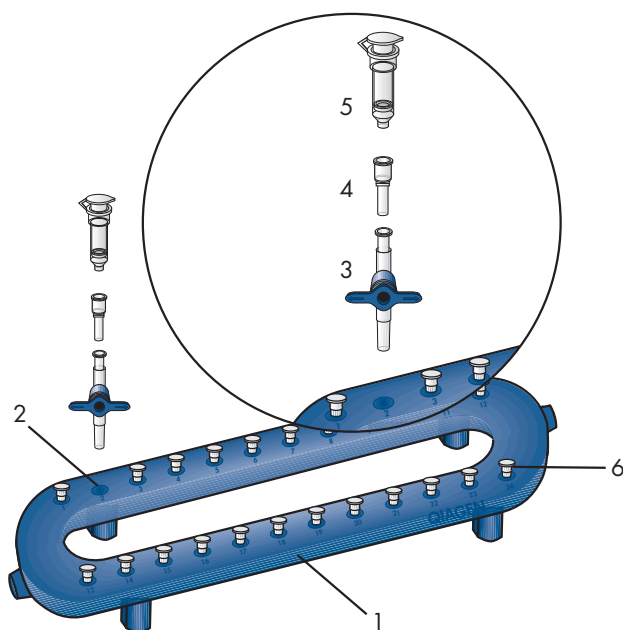

Figure 2. Setting up the QIAvac 24 Plus with QIAamp Mini columns using VacValves and VacConnectors.
2. **Recommended: Insert a VacValve into each luer slot of the QIAvac 24 Plus that is to be used (see Figure 2).**
3. **Insert a VacConnector into each VacValve (see Figure 2) or directly into each luer slot of the QIAvac 24 Plus that is to be used. Close unused luer slots with luer plugs or close the inserted VacValve.**
4. **Place the QIAamp Mini columns into the VacConnectors on the manifold (see Figure 2).**